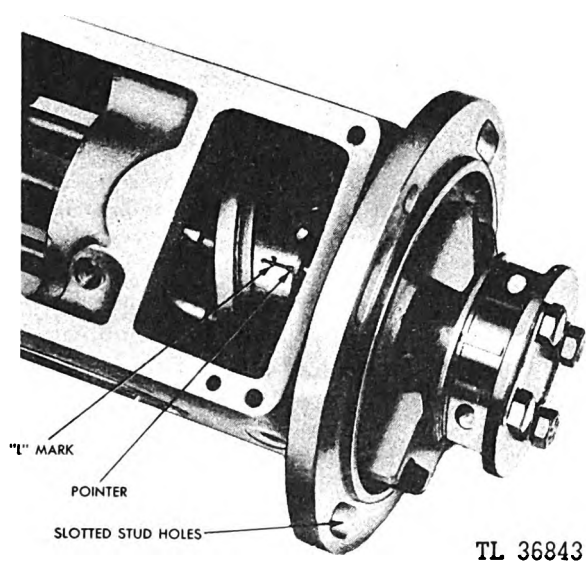

Fig. 191. Timing Marks—Fuel Injection Pump
(4) Remove the fuel pump drive unit cover. (See Figure 191.) Slacken the four capscrews holding the fuel pump to the adaptor plate. Rotate the fuel pump in the slots provided in the mounting flange until the pointer aligns with the L mark on the pump swash plate.